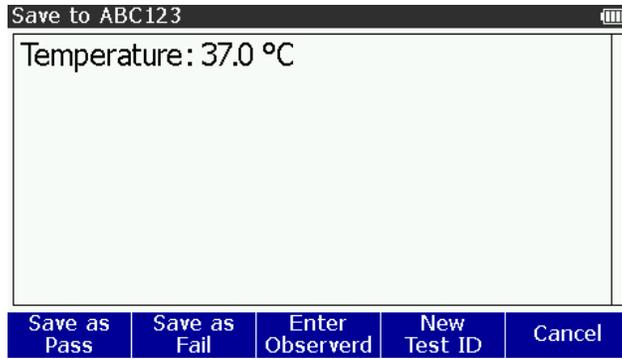

Figure 52. Save Screen
1. Push the **Save** softkey to show the **Save** screen. The screen in Figure 52 is the save screen for the temperature simulation function.